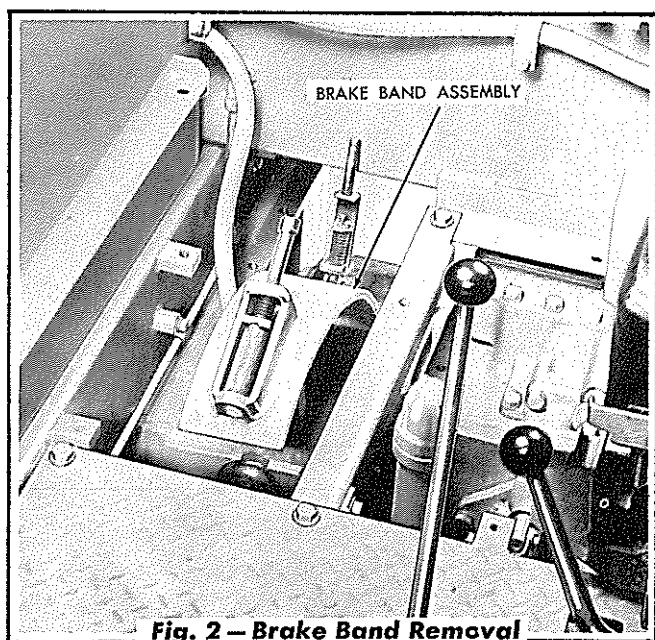

Fig. 2 — Brake Band Removal
7. Move the brake band toward the bevel gear compartment and remove as shown in Fig. 2.